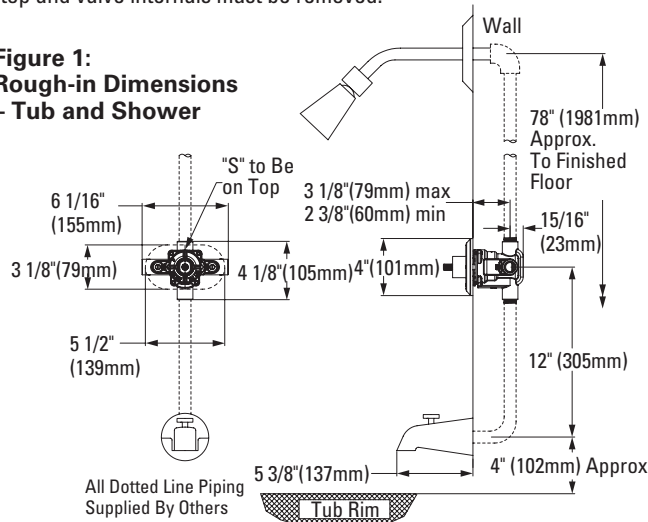

Figure 2:
3. **For shower only installation**, see Figure 2. Pipe top outlet port "S" directly to the showerhead and plug bottom port.